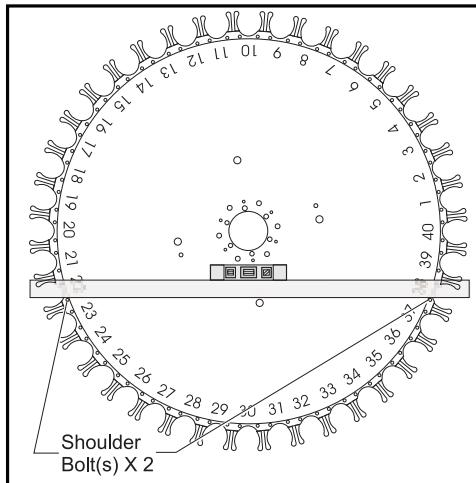

Figure 3-23.
14. Install two $\frac{1}{4}$ -20 x 2 in. shoulder bolts into threaded holes on the face of the carousel as shown in *Figure 3-23*. Place a 48" bubble level or a flat bar with a torpedo level across the two shoulder bolts.